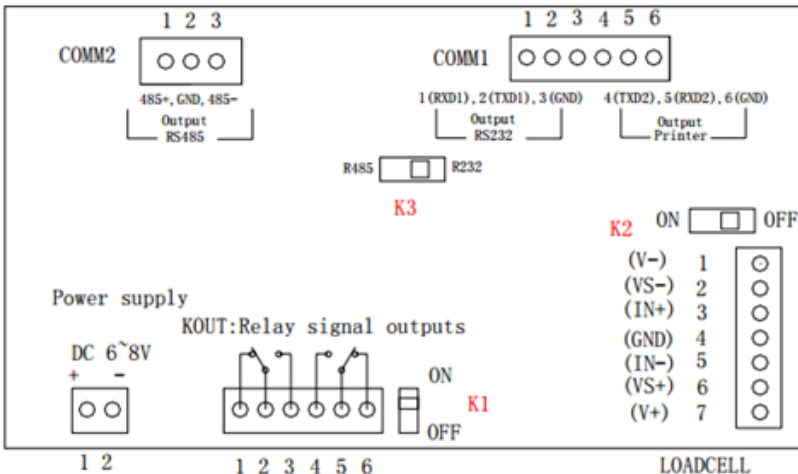
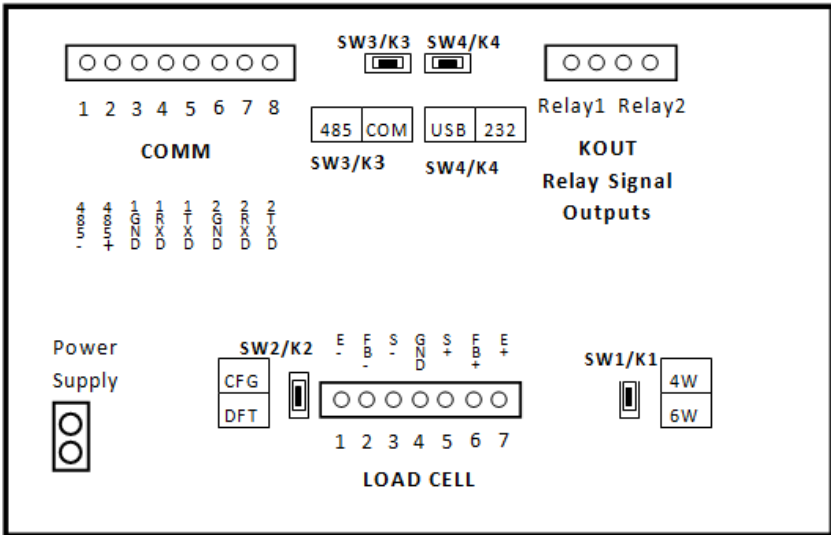

Fig. 8.1 Sockets on Circuit Board for 805TS-B/805TS-B-16 and earlier models
Fig. 8.3 Sockets on Circuit Board for 805TS-B-H, 805TS-B-17, 805BS-B-H, 805BS-B-17 & 805BS-TN-B
Note ( for fig. 8.1 & 8.2 ):
When hooking up a printer to the indicators 805TS series, 805BS-B-17 & 805BS-TN-B use connections 2GND, 2RXD, and 2TXD shown in Fig.8.1 and Fig.8.3. To ensure the indicator is able to print on command set the serial mode (F4.3) equal to comm (1).